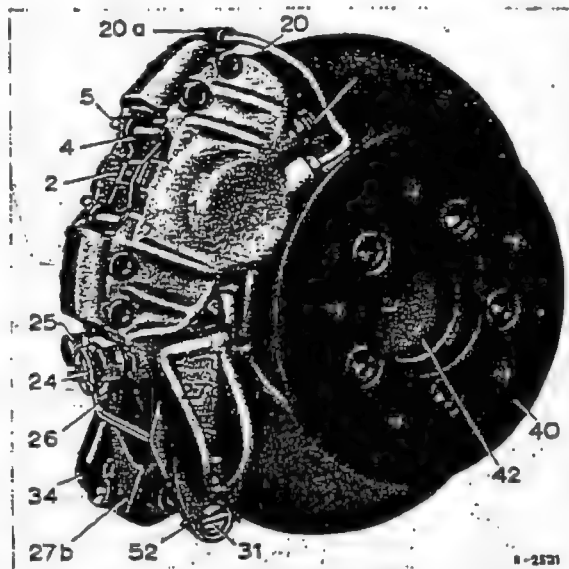

Fig. 42-7/21
1. Disconnect the brake line (38) from the outer pressure cylinder (12) (Fig. 42-7/20).